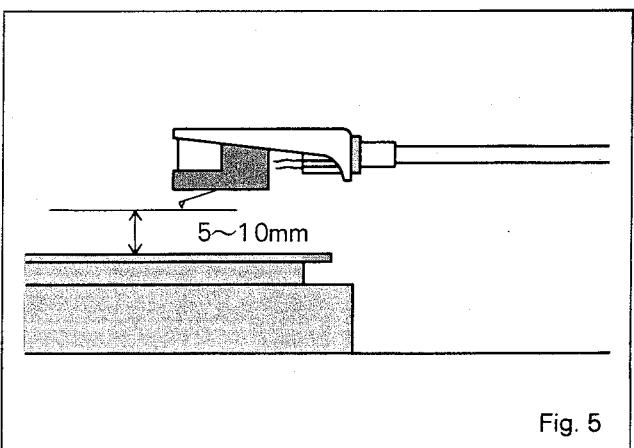
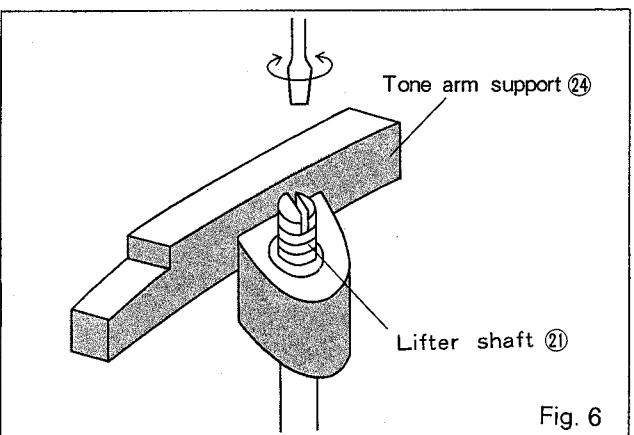

Fig. 5
Fig. 6
Adjust the height from the record surface to the stylus point in the following order so that it conforms to the dimensions shown in Fig. 5 during auto return:
- (d) If the gap is not within the dimensions specified in Fig. 5, turn the lifter shaft as shown in Fig. 6, and adjust the height referring to the below.